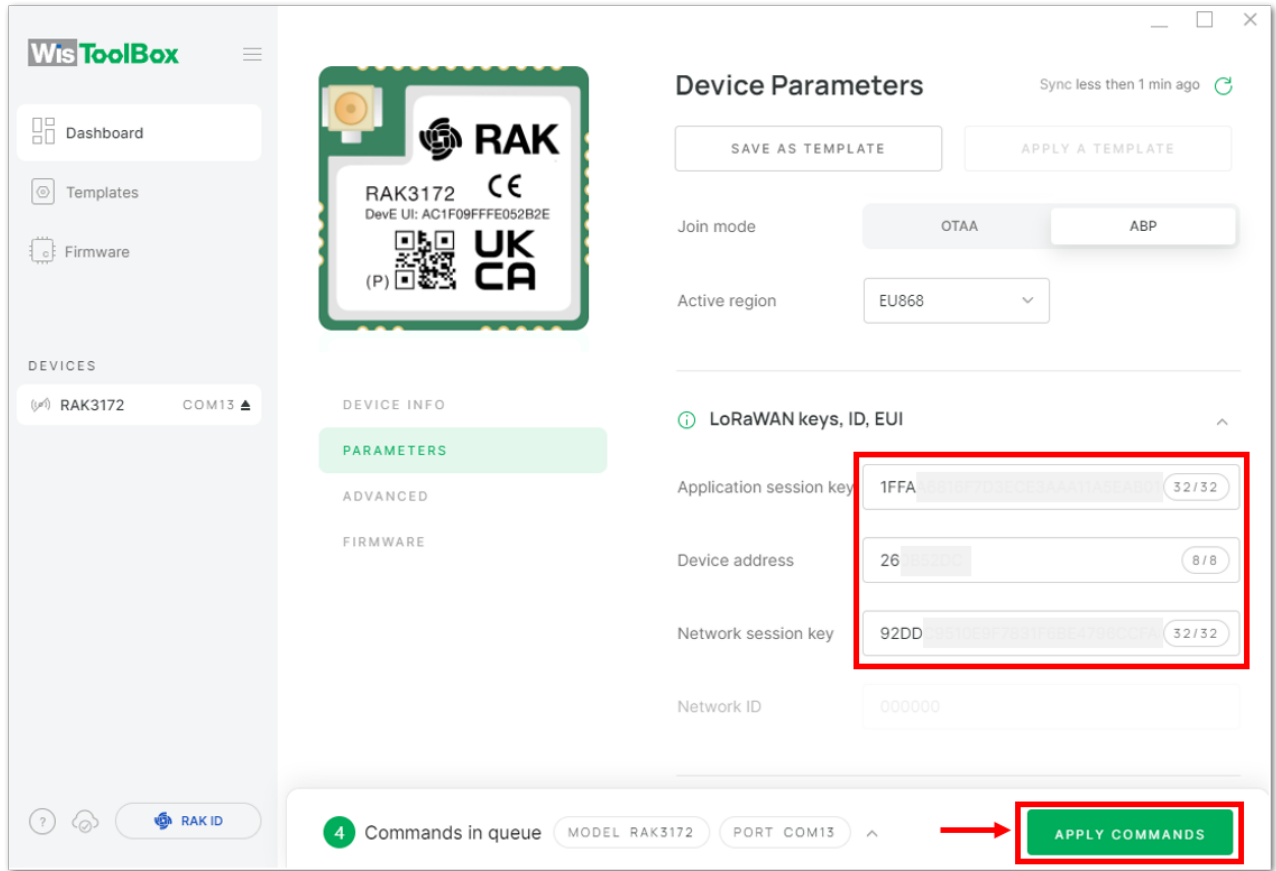

Figure 145: Used credentials from your console in WisToolBox dashboard
8. Then go back to console where your RAK3172 End device is created previously. Then copy all the credentials from there. Those will be the ones to be used also in the WisToolBox dashboard. Once encoded into the dashboard, click **APPLY COMMANDS** to update your device as shown in **Figure 145**.